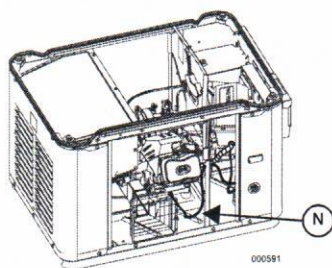

Figure 5.
12. Run second harness extension connector (N) through engine divider panel with breather tube and connect to block heater. (See Figure 5).